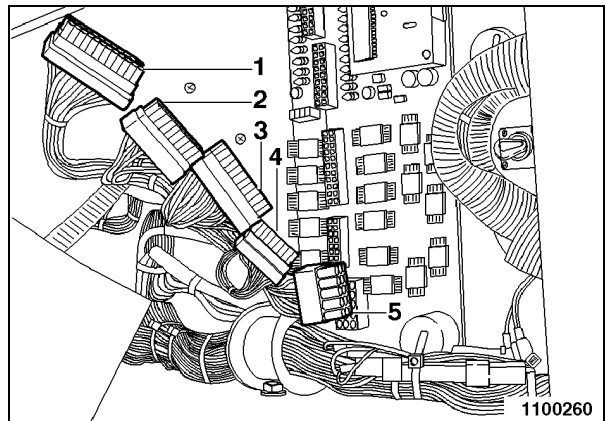

Fig. 4
- Withdraw plugs (1 - 5, Fig. 4) from CU, pressing laterally on the plug arresting device. Mark the connectors correspondingly in advance to avoid mix-ups when plugging together.